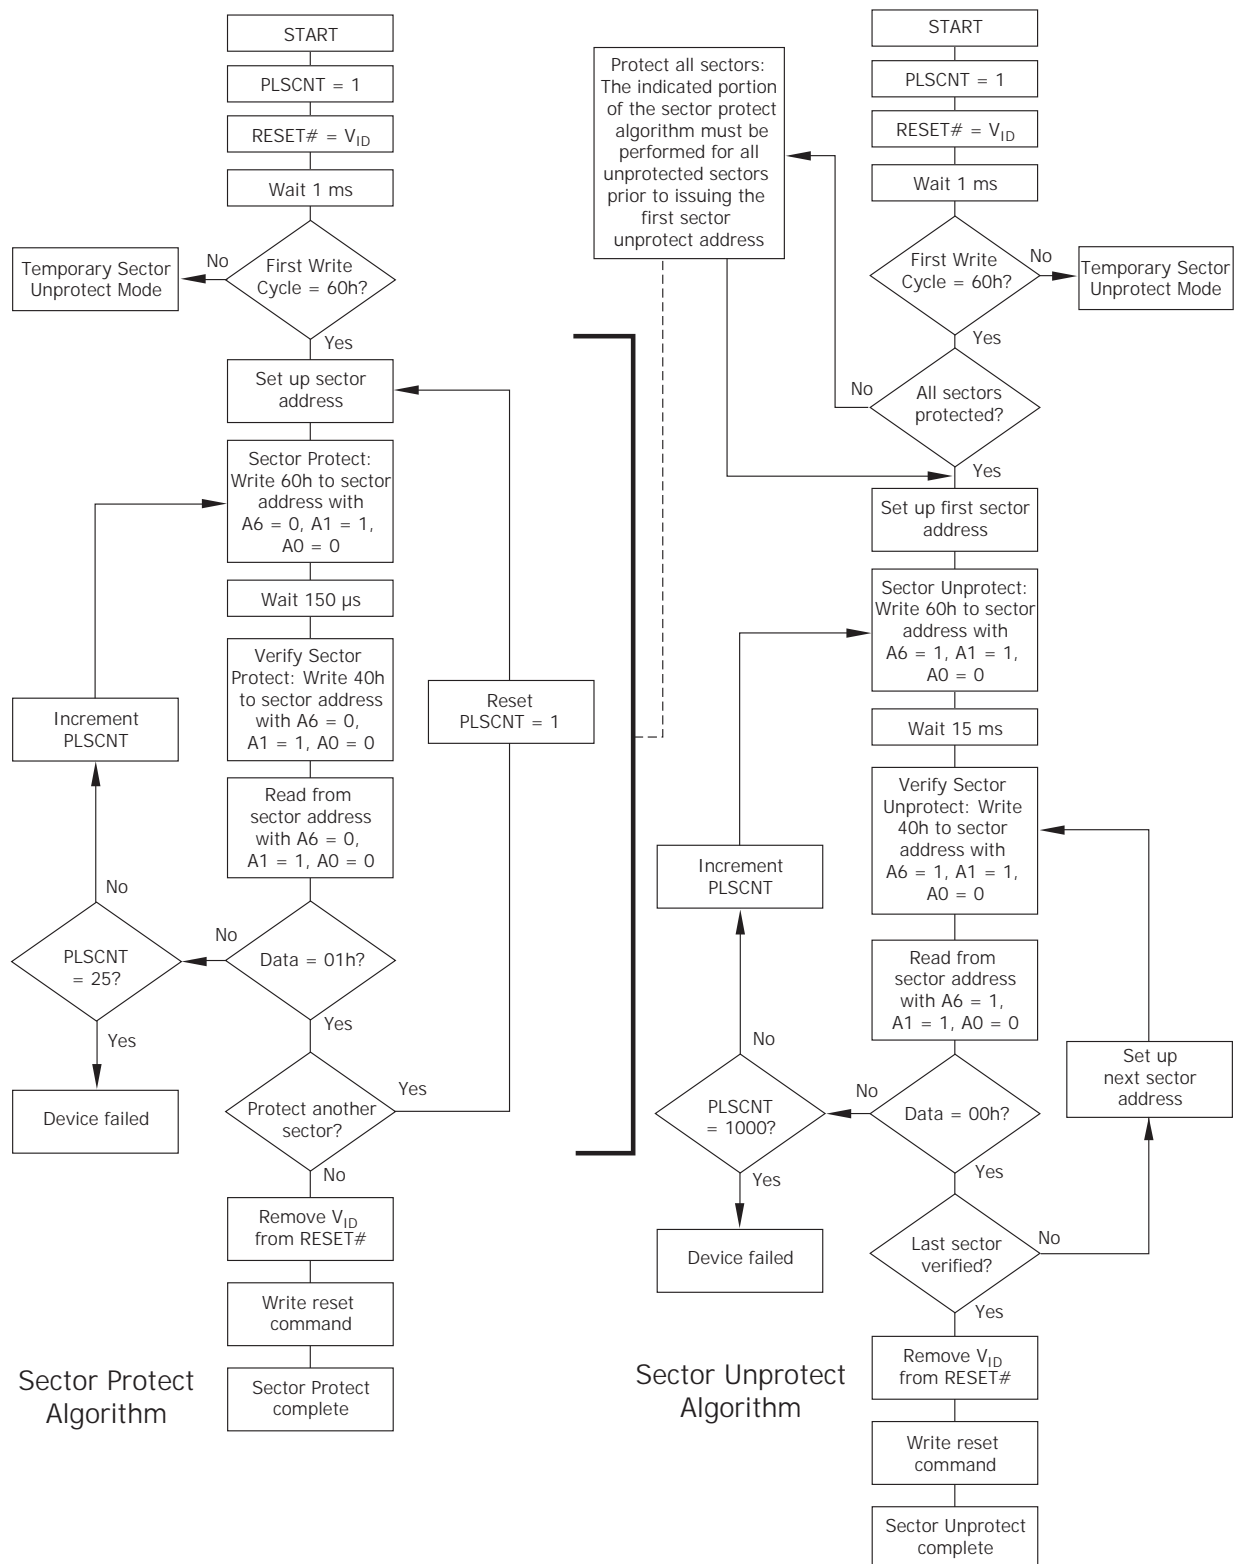

Figure 2. In-System Sector Protect/Unprotect Algorithms
Sector protect/Sector Unprotect requires V_{DD} on the RESET# pin only, and can be implemented either in-system or via programming equipment. Figure 2 shows the algorithms and Figure 26 shows the timing diagram. For sector unprotect, all unprotected sectors must first be protected prior to the first sector unprotect write cycle. *Note that the sector unprotect algorithm unprotects all sectors in parallel. All previously protected sectors must be individually re-protected.* To change data in protected sectors efficiently, the temporary sector unprotect function is available. See "Temporary Sector Unprotect".
- Write the three-cycle Enter SecSi Sector Region command sequence, and then follow the in-system sector protect algorithm as shown in Figure 2, except that *RESET#* may be at either V_{IH} or V_{ID} . This allows in-system protection of the SecSi Sector Region without raising any device pin to a high voltage. Note that this method is only applicable to the SecSi Sector.